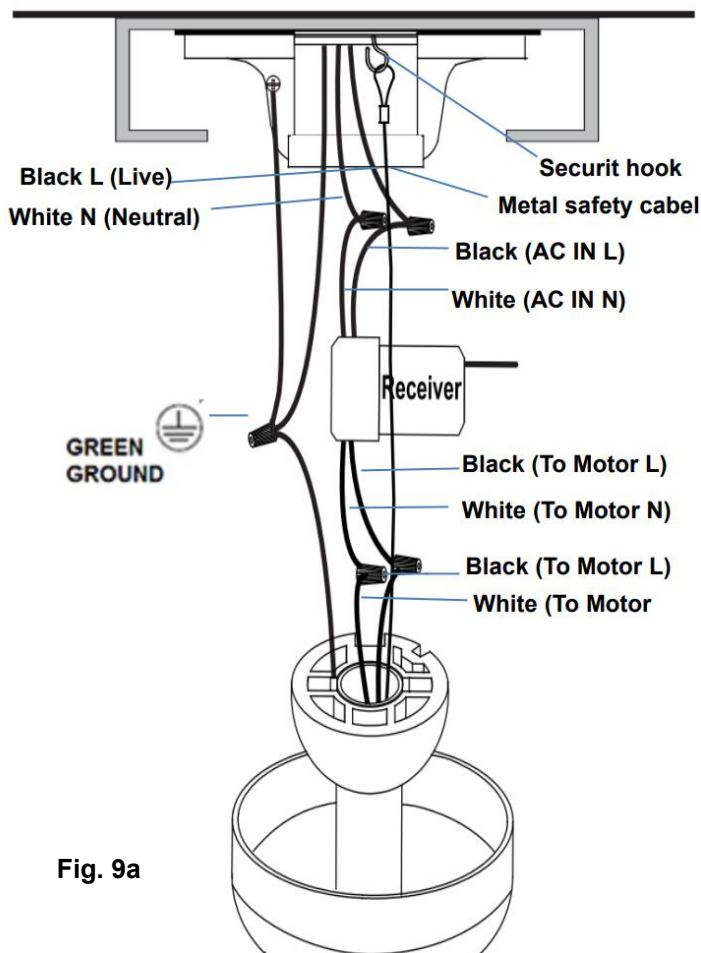
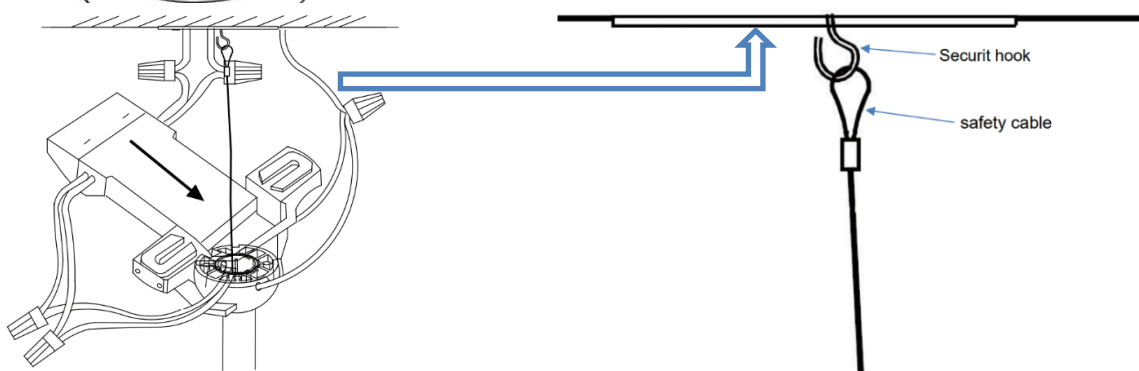

Fig. 9a
Fig. 9b
6. Pull the metal safety cable on the security hook, tight the safety cable (Fig.9a & Fig.9b)
9. Carefully insert the Remote Receiver above the hanger ball in the remainder spacing in the mounting bracket. Take care not to damage or loosen any of the wiring. (**Fig. 9b**)